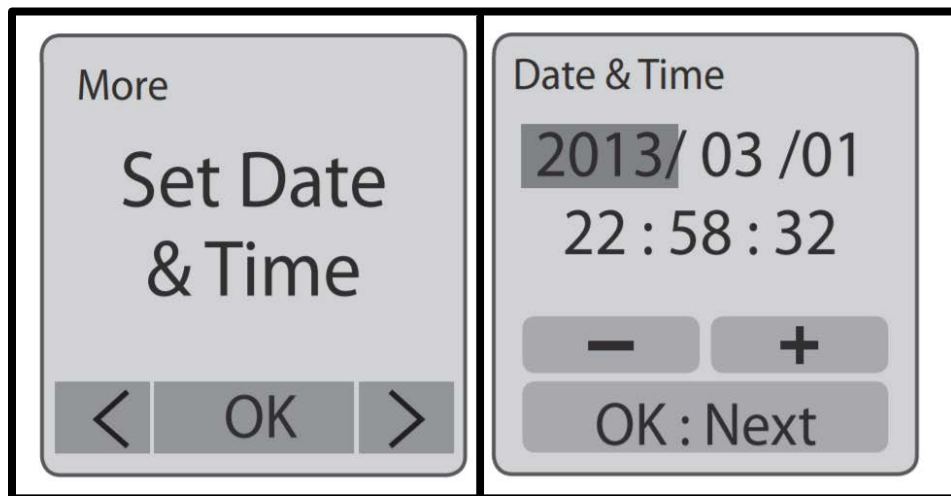

Figure A.11.8: Setting the date and time.
- a. Use the “MENU” and “TIME” buttons to navigate to the “Set Date & Time” option as shown on the left of Figure A.11.8. Press the “OK” button to enter the “Set Date & Time” screen as shown on the right of Figure A.11.8.